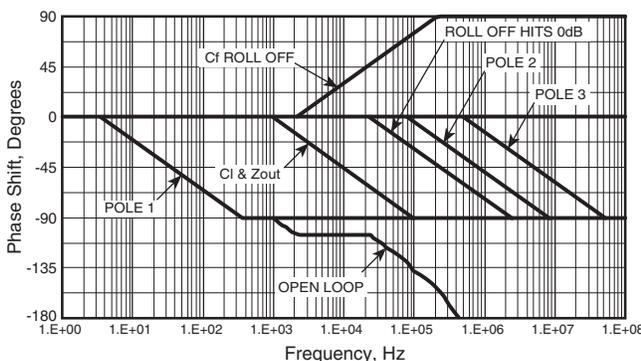

FIGURE 35.
**STEP 5:** The booster stage of the composite must be stable before we consider the overall composite amplifier. Booster circuit data was entered into the Cload sheet of the Apex Microtechnology Power Design spreadsheet. Initial indications were an intersection rate of 40dB per decade and a phase margin of only 19°. Figure 34 shows Power Design has already added the 150Ω amplifier output impedance to the 15Ω current limit resistor and calculated the pole with the capacitive load to be at 9.6KHz. The booster stage was compensated with Cf producing a closed loop pole (a feedback zero) at 21.3KHz. Do not be confused by sub-Hertz or multi-GHz entries in the table; these show up because the spreadsheet avoids division by zero errors by forcing extremely small values for non-existent capacitors. Refer to Figure 35 to see phase contributions of all elements added, closure frequency of 75KHz, closure rate of 20dB per decade, and a phase margin of 52°.